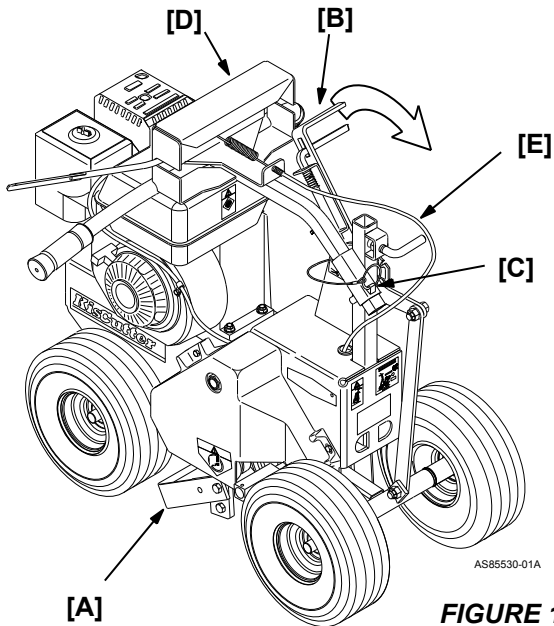
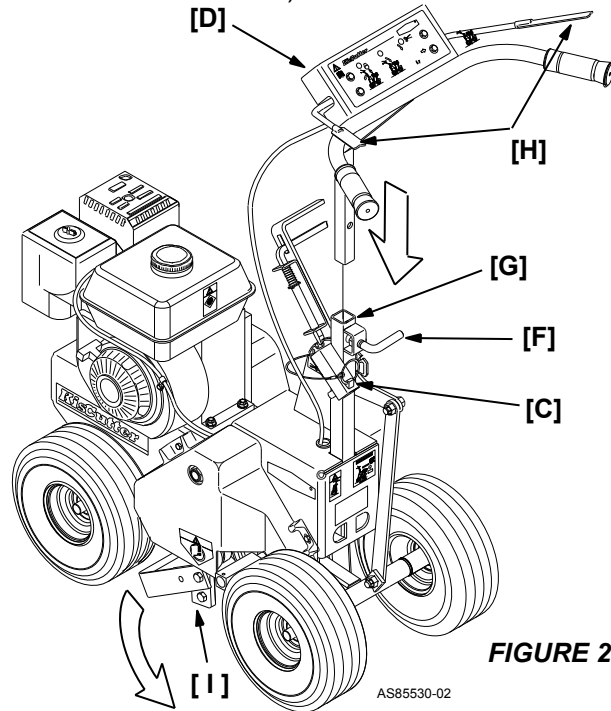

FIGURE 1
FIGURE 2
(See Figure 1 and Figure 2)
Step 1. Remove the KisCutter from the shipping container. **Caution - SHARP BLADE!!** Use caution when handling near the cutting blade assembly [A] (See Figure 1).
Step 2. Pull the Blade Depth Control Handle [B] back to the very first notch (See Figure 1).
Step 3. Pull the handlebar lynch pin [C] and remove the handlebar assembly [D] from the storage position. Take care not to twist, pinch or kink the throttle cable [E] (See Figure 1).
Step 4. Loosen the handlebar lock [F] (See Figure 2).
Step 5. Insert the handlebar assembly in the handlebar mounting tube [G] in the KisCutter frame. *Throttle cable should be on the left side of the handlebar* (See Figure 2).
Step 6. Lock the handlebar to the frame by firmly tightening the handlebar lock [F]. Replace the lynch pin [C] into the to the storage position tube (See Figure 2).
Step 7. Check movement of the throttle control [H]. **DO NOT START ENGINE.** (See Figure 2). Throttle